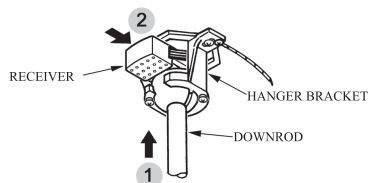

FIG.6
2. Carefully lift the fan and seat the down rod ball assembly on the hanger bracket. Be sure the groove in the ball is lined up with tab on the hanger bracket. Do not pinch wires between the ball and down rod assembly and hanger bracket (see Fig 6)